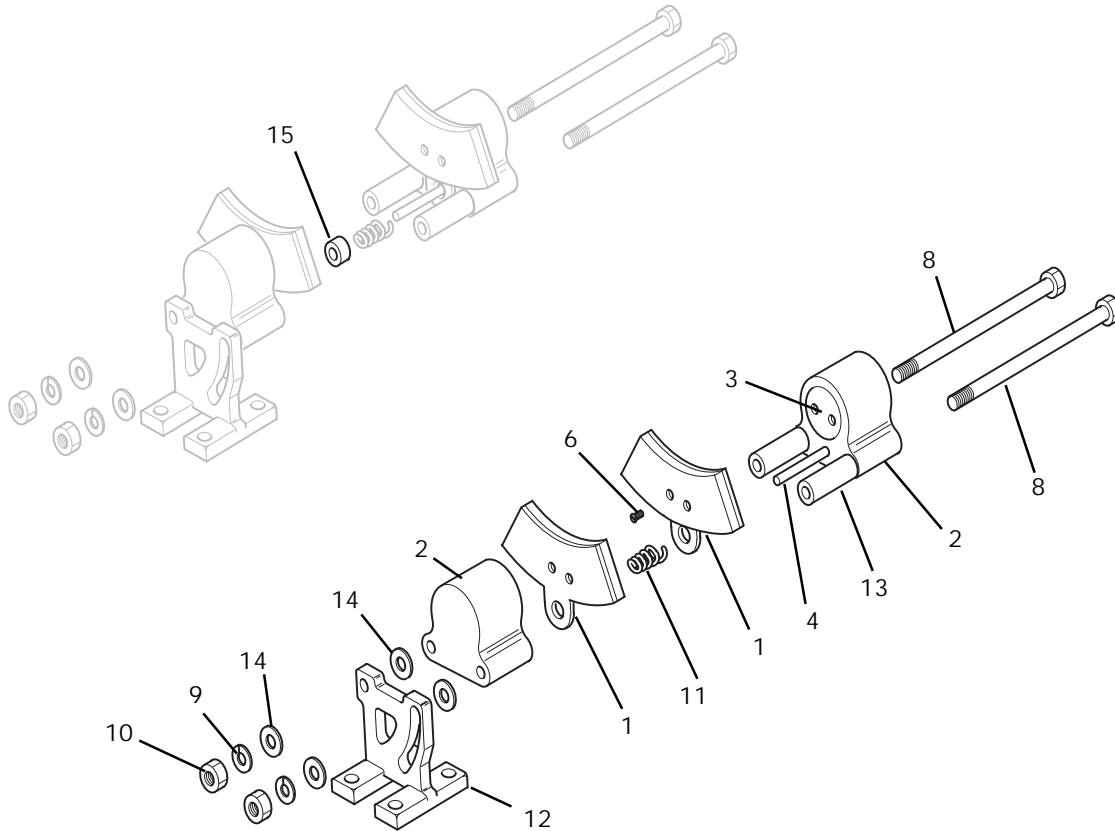

FIGURE 5
1. Remove the two Hex. Head Screws (Item 9), Hex. Nuts (Item 10), Lock Washers (Item 9), and Flat Washers (Item 14); then, remove the two Air Chambers (Item 2) from the "T" Support (Item 12) (See Figure 5).
2. Separate the two Air Chambers (Item 2) (See Figure 5).
3. Remove the Flat Head Cap Screws (Item 6) securing the old Shoe Assemblies (Item 1) to the Piston (Item 3) (See Figure 5).
4. Apply Loctite® 242 to the threads of the Flat Head Screws (Item 6); then, secure the new Shoe Assemblies (Item 1) to the Pistons (Item 3) (See Figure 5).
6. Slide the Compression Spring (Item 11) onto the Guide Pin (Item 4); then, insert the two Air Chamber Spacers (Item 13) and slide the two Air Chambers together (See Figure 5).
7. Using the two Hex. Head Screws (Item 8), Hex. Nuts (Item 10), Lock Washers (Item 9), and Flat Washers (Item 14), secure the two Air Chambers (Item 2) to the "T" Support (Item 12) (See Figure 5).